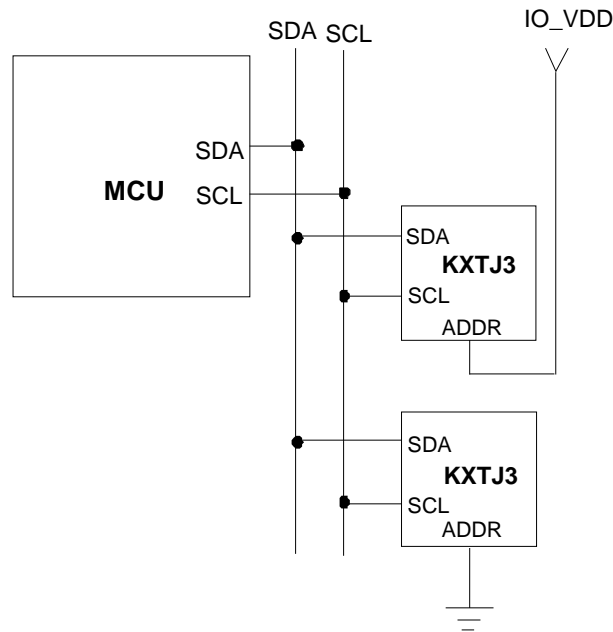

Figure 2. Multiple KXTJ3 I²C Connection
Transactions on the I²C bus begin after the Master transmits a start condition (S), which is defined as a high-to-low transition on the data line while the SCL line is held high. The bus is considered busy after this condition. The next byte of data transmitted after the start condition contains the Slave Address (SAD) in the seven MSBs (Most Significant Bits), and the LSB (Least Significant Bit) tells whether the Master will be receiving data '1' from the Slave or transmitting data '0' to the Slave. When a Slave Address is sent, each device on the bus compares the seven MSBs with its internally stored address. If they match, the device considers itself addressed by the Master. The KXTJ3's Slave Address is comprised of a programmable part and a fixed part, which allows for connection of multiple KXTJ3's to the same I²C bus. The Slave Address associated with the KXTJ3 is 000111X, where the programmable bit X is determined by the assignment of ADDR (pin 1) to GND or IO_VDD (Table 7). Also, Figure 2 shows how two KXTJ3's would be implemented on the same I²C bus.